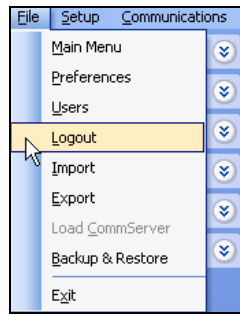

Figure 1.6.1
1. In the toolbar at the top of the screen click on **File** scroll down to the word **Logout** and click on it (Figure 1.6.1).